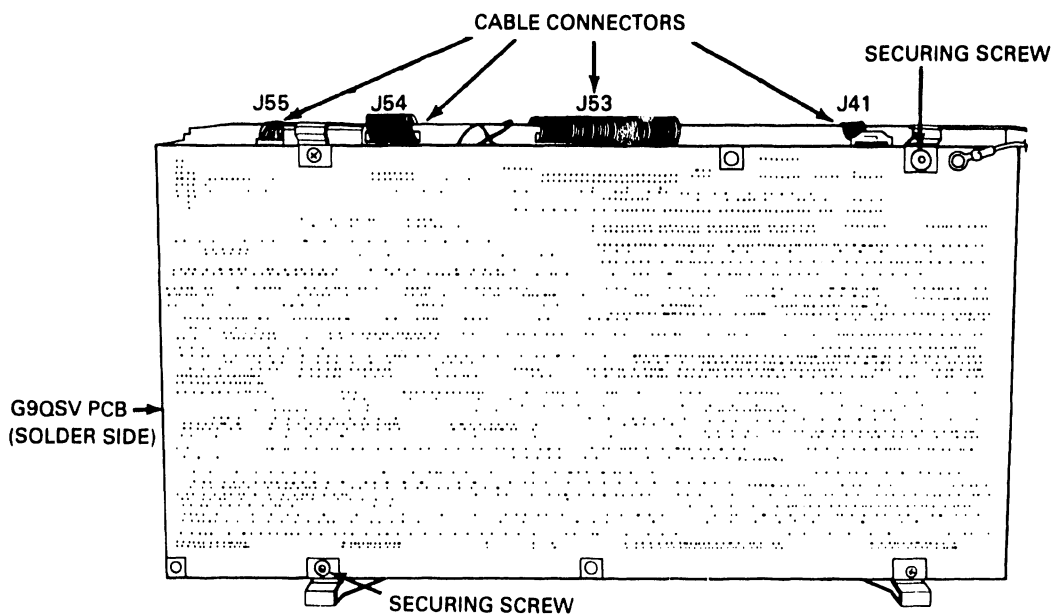

Figure 4-2 G9QSV Cable Connectors
5. Disconnect cable connectors J55, J54, J53, and J41 (see Figure 4-2).
6. Remove the two screws that fasten the G9QSV to the drive unit (see Figure 4-2).